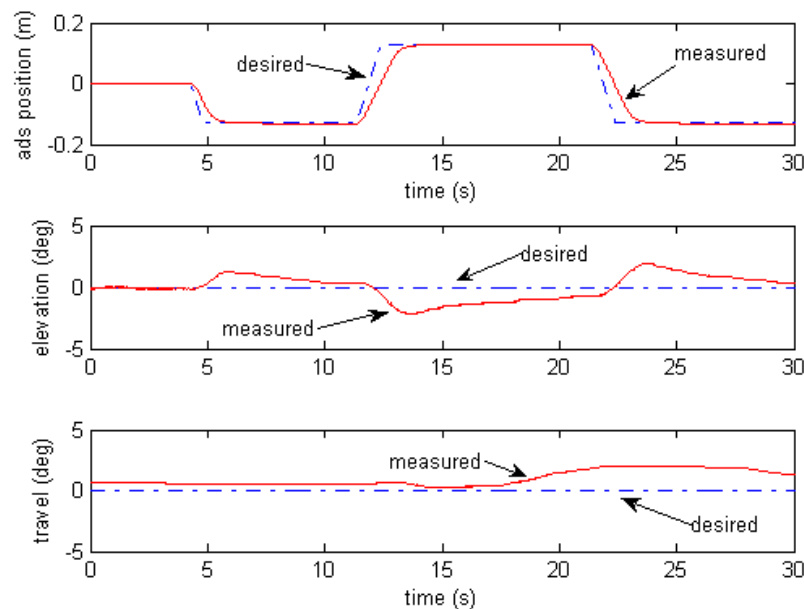

Figure 5.6: Closed-loop response of 3 DOF Helicopter ADS device.
11. In the *Vm (V)* scope, the green line is the front motor voltage and the red trace is the back motor voltage. These should be within $\pm 25V$ and not go negative very often.
13. Figure 5.6, below, depicts the measured closed-loop position response of the 3 DOF Helicopter with the ADS when the disturbance mass is moving between ± 0.13 meters at 0.05 Hz.